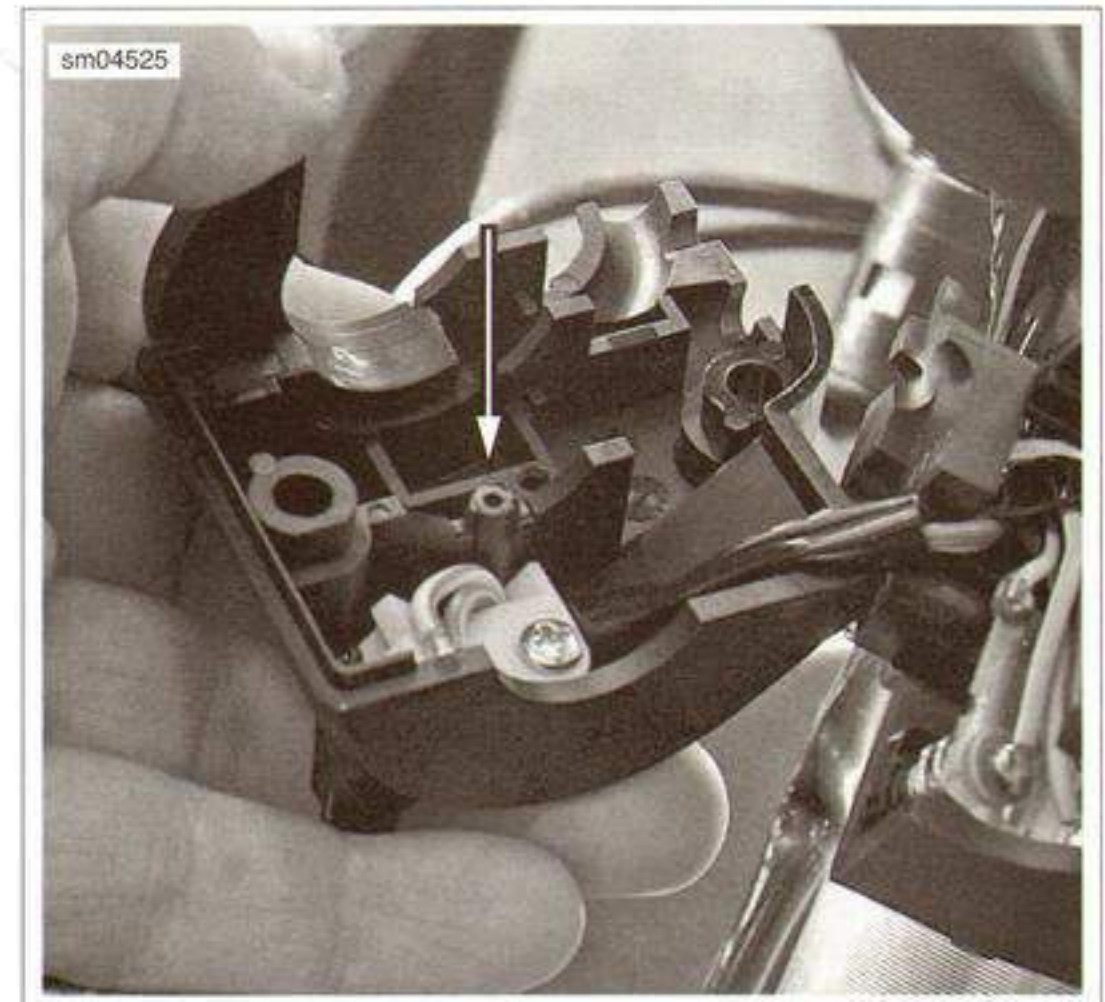

Figure 2-140. Switch Housing Alignment Tab
1. See Figure 2-140. Push an end cap (1) into the clip-on end.
2. Install left clip-on into upper fork clamp (3) and tighten fastener (4) to 33-35 Nm (24-26 ft-lbs).
3. See Figure 2-140. Fit switch housings up against grip on the clip-on. Housing will snap flush when tab in the housing aligns with the hole in the clip-on.